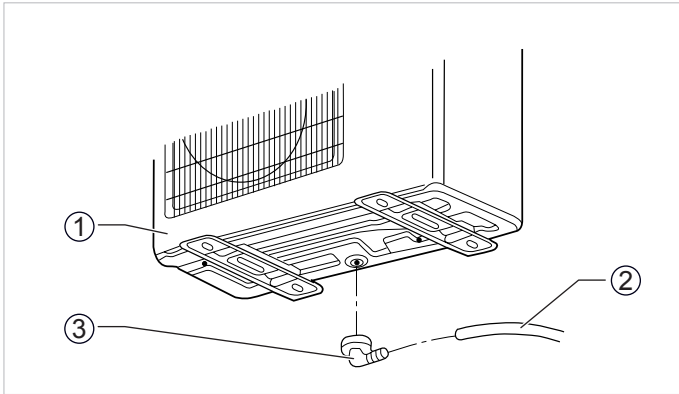

Fig. 10.1 Assembly of the drainage elbow for condensed water
- Insert the elbow supplied in the hole provided at the bottom of the outdoor unit and turn it 90° to fix it (see Figure 10.1).